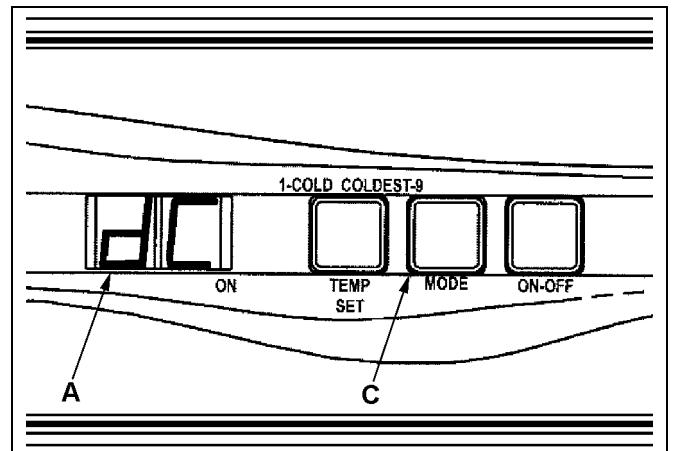

Figure 9-12 – Manual 12 Volt Operation
- Push and hold the mode button (C) until “dC” is shown in the display (A). Release the mode button. After ten seconds, the display will go off and the green power on light will be illuminated. The refrigerator is operating on 12 volt DC power. See figure 9-12.